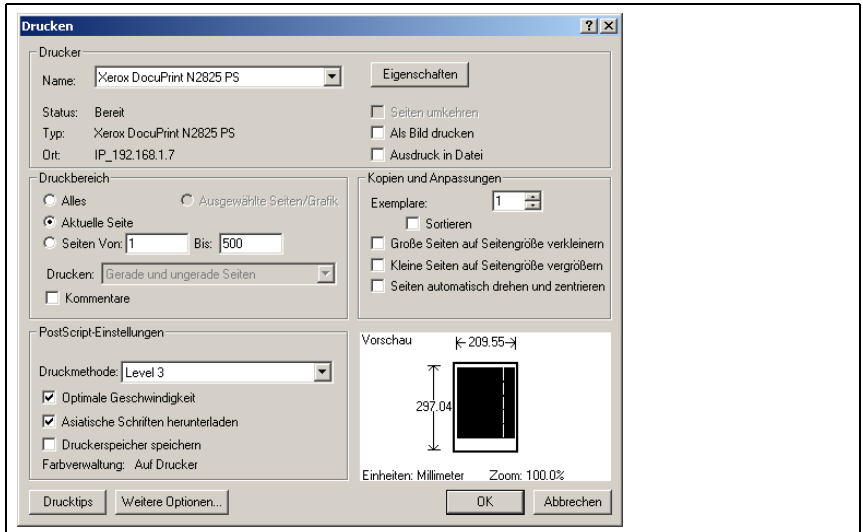

Figure 6.9:Printer settings for BCB repair kit
**Suggestion** for printer settings, see Figure 6.9.